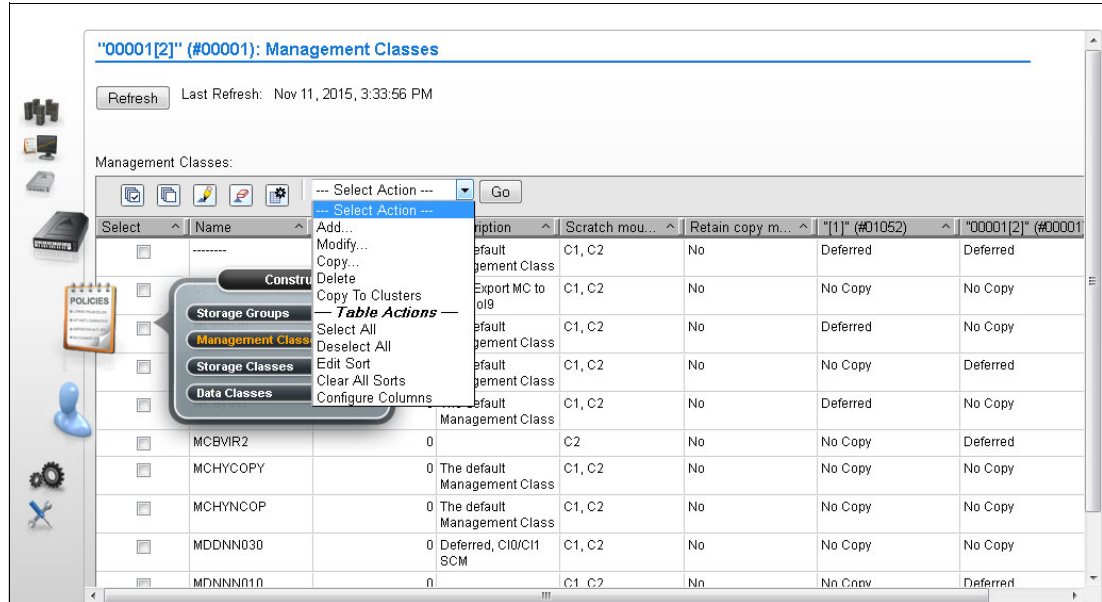

Figure 10-8 MI Management Classes window on a grid
Use this window to define, modify, copy, or delete the MC that defines the TS7700 copy policy for volume redundancy (see Figure 10-8). The table displays the copy policy that is in effect for each component of the grid.
1. Select **Add** from the Management Class menu that is shown in Figure 10-8 on page 478 and click **Go**.